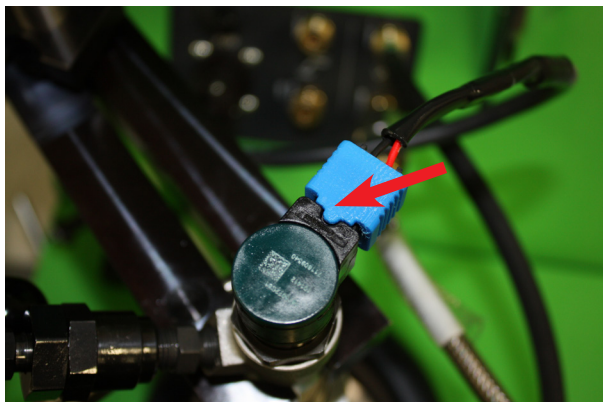
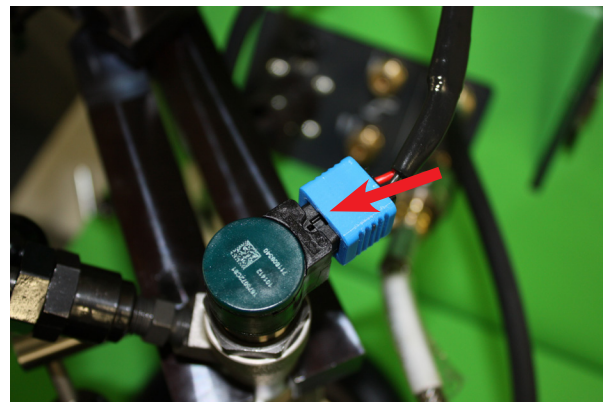

Figure 3
Figure 4
10. Install 6.4L harness to bench. Plug connector into injector. (Figure 3 and Figure 4)